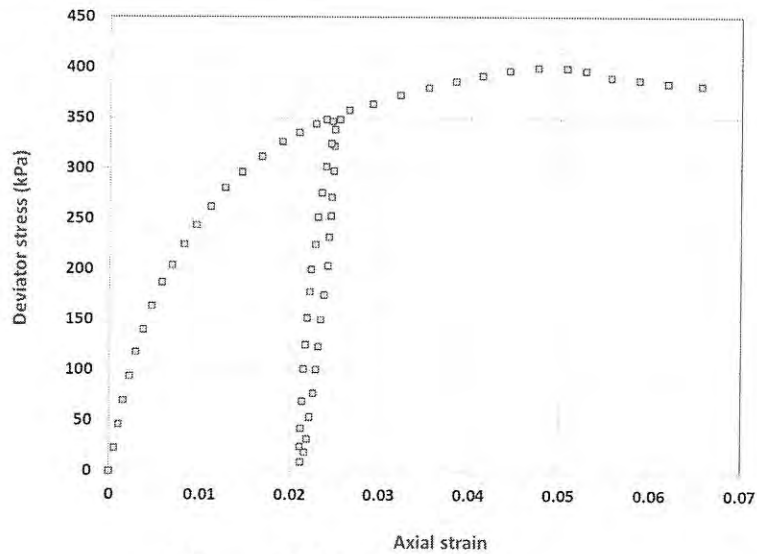

Figure Q3(c): Stress strain curve
(c) The undisturbed soil sample with a diameter of 50 mm and 100 mm long. The results of stress and strain curve obtained from the triaxial test is shown in **Figure Q3(c)**. The axial stress was increased from 100 kN/m2 to 500 kN/m2 during shearing.
(iii) From Figure Q3(c), estimate the Young's Modulus (E),  $E_{50}$  and  $E_{ur}$ . Then determine the shear modulus and bulk modulus of the soil.